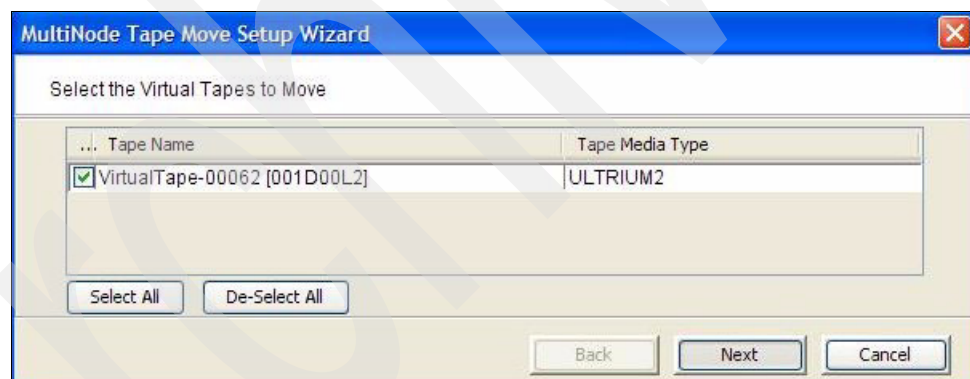

Figure 12-29 Virtual tape selection
2. You will then get a window (see Figure 12-29) to verify the tape(s) you want to move. After verifying the selection, click **Next**.